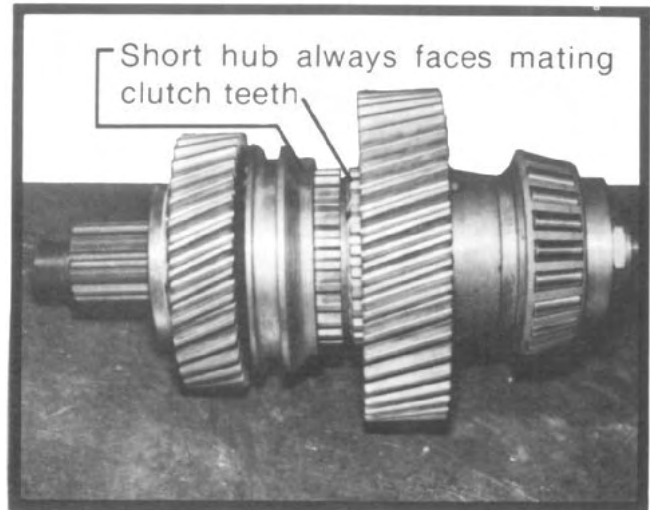

Fig. 5—TC-65 Input Shaft Assembly with Blanking Sleeve
8. The clutch collar shift fork slot is offset, which is indicated in Fig. 5. The long side can be determined by examining the collar for the external short extended hub. This short hub, referred to in the assembly instructions, must *a/ways* face the mating gear clutch teeth, whether in the de-clutch housing, PTO housing or main case.
TC-65 & TC-80: (See Fig. 5, 6 and 7)
rear of the shaft. Slide the clutch collar onto the teeth of the clutch gear. The side of the collar with the short hub is to face the rear of the shaft (see fig. 5)
4. Slide clutch collar over the front of the shaft and over the raised teeth of the input shaft (short hub to face direct drive gear, see fig. 5). Slide spacer ring ($2\frac{1}{32}$ " thick) over front of shaft and onto the raised teeth of shaft. Slide spacer ring ($1\frac{31}{32}$ " thick) over front of shaft and onto the raised hub portion of the shaft past the splines. The inner diameter chamfer of the spacer is to face the direct drive gear.
4. Slide spacer ring ($2\frac{1}{32}$ " thick) over rear of shaft and onto the raised teeth of the shaft (not used on PTO-110). Slide clutch collar over the rear of the shaft and over the raised teeth of the shaft. Short hub side of collar (see fig. 5) to face toward where the direct drive gear will be placed.